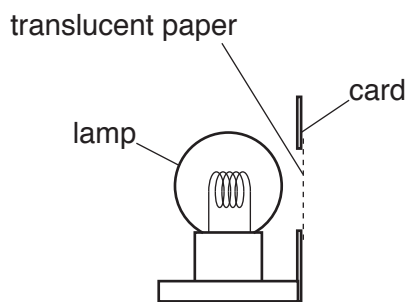

Fig. 3.1
- (ii) Illuminated object with a triangular hole of height 1.5 cm (see Figs. 3.1 and 3.2). The hole is to be covered with thin translucent paper (e.g. tracing paper). See note 2.